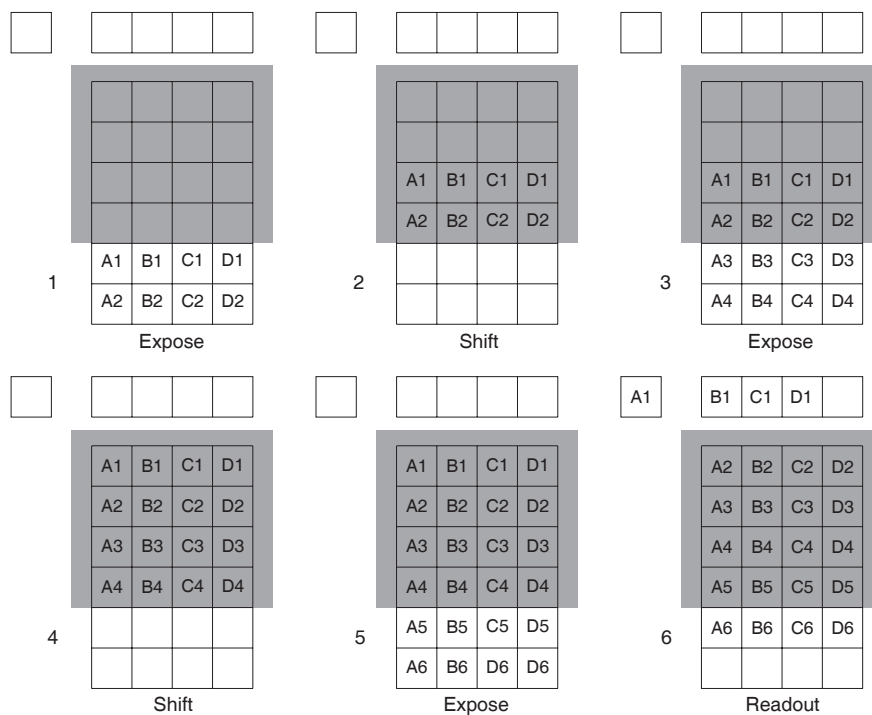

Figure 19. Kinetics Readout
Below is a simplified illustration of kinetics mode. Returning to our  $4 \times 6$  CCD example, in this case  $2/3$  of the array is masked, either mechanically or optically. The shutter opens to expose a  $4 \times 2$  region. While the shutter remains open, charge is quickly shifted just under the mask, and the exposure is repeated. After a third image is collected the shutter is closed and the CCD is read out. Since the CCD can be read out slowly, very high dynamic range is achieved. Shifting and readout are shown in Figure 19.
**Example:** Referring to the readout shown in Figure 19, there are 6 pixels perpendicular to the shift register and the Window Size is 2 pixels high. The number of frames is 3. If the Vertical Shift Rate for the CCD is  $1.6 \mu\text{sec}/\text{row}$ , the Shift time will be  $3.2 \mu\text{sec}$  per frame.